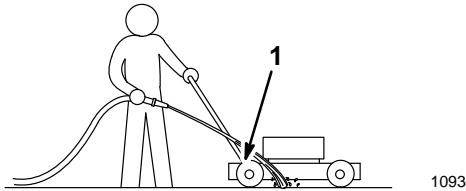

Figure 20
3. Hold the running garden hose at handle level and direct the water to flow on the ground just in front of the right rear tire (Fig. 20).